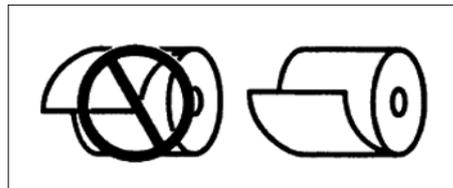

Fig. 11: Position of the paper roll
- ▶ The paper roll compartment is now accessible. The paper roll is inserted according to fig. 11.